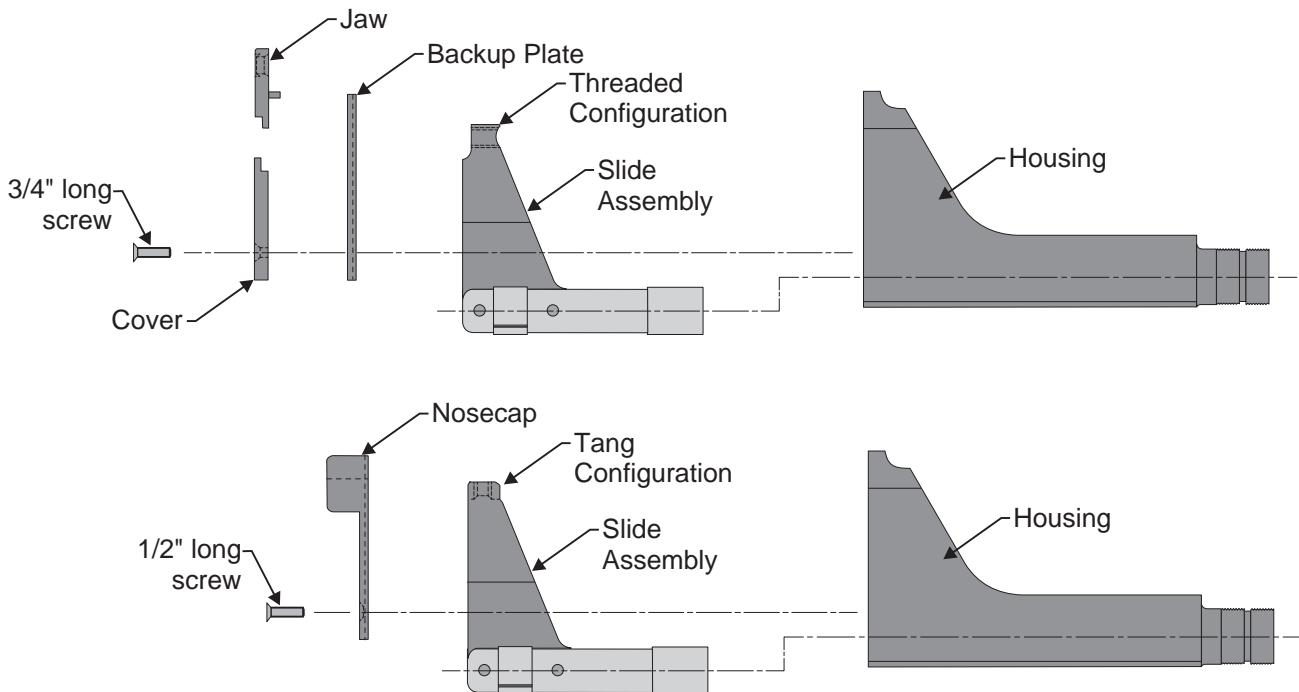

Figure 4-4
- Remove face plate from LBOA and insert slide assembly into housing (Figure 4-4).
- Install proper face plate, special jaw plate, or special nosecap spacer (Figure 4-4).
- If a standard face plate is used, install the proper jaw on the LBOA (Figure 4-4).
(Guard not shown in Figure 4-4 for clarity)